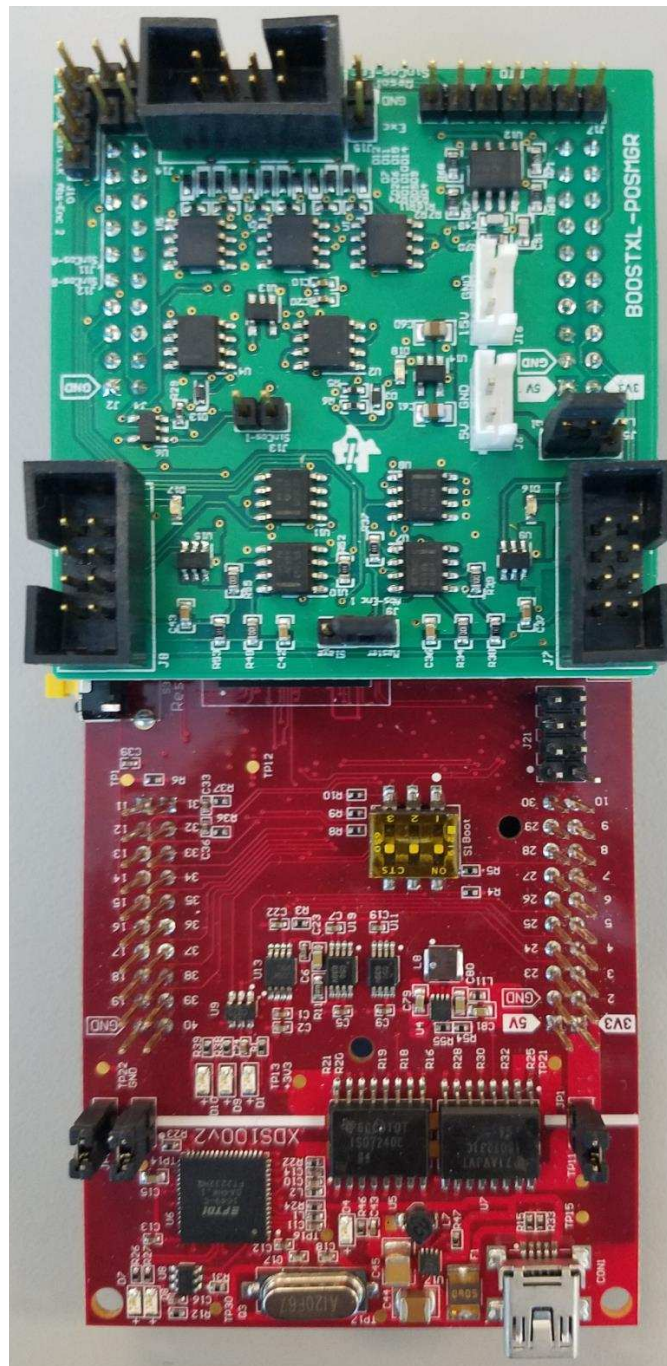

图 10. TIDM-1010 Board Connected to Site Two of LaunchPad™
2. Connect the TIDM-1010 device to the LaunchPad using the BoosterPack connector (J1, J3 and J4, J2). Ensure the TIDM-1010 device is connected to site two of the LaunchPad, as shown in 图 10.